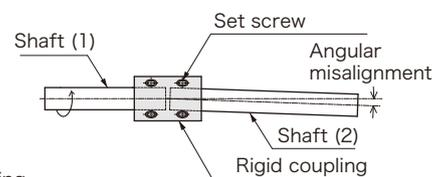

Fig. 3
- While gently rotating the shaft or coupling, alternately fasten the two set screws (located obliquely on the left and right) to the same torque, to fix the shaft to the bottom surface (C).
- Insert shaft (1) and shaft (2), ensuring that they are aligned in a straight line so that there is no angular misalignment. The correction cannot be completely effected if the set screws are fastened when there is angular misalignment (see Fig. 3).